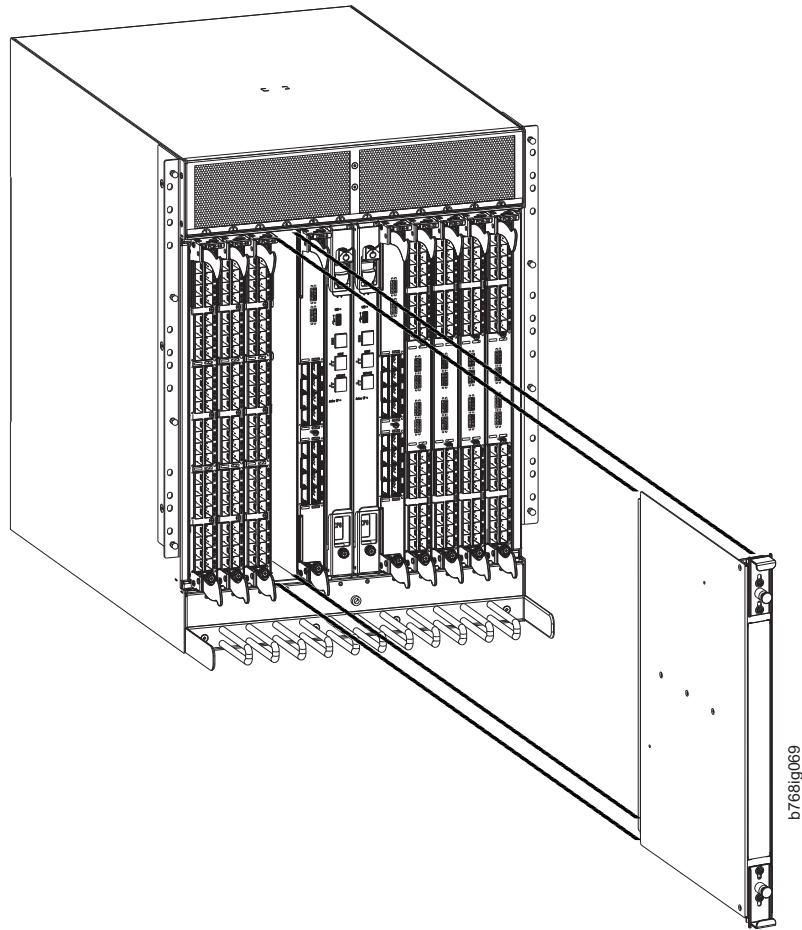

Figure 26. Filler panel removal and installation
3. Using the tabs, pull the filler panel out of the chassis. (See Figure 26 on page 73.)